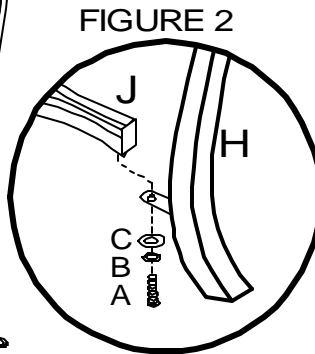

FIGURE 2
Attach Support Ring (J) to all 4 Legs (H) using 1 Allen Bolt (A), 1 Spring Washer (B) and 1 Metal Washer (C) per each leg. Tighten All Bolts. See Figure 2.